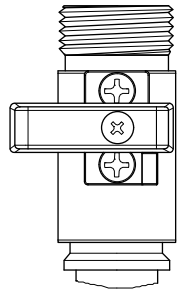
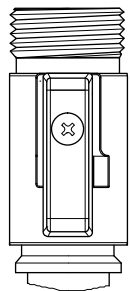

Fig. 1
Fig. 2
1. Turn Beer Flow Control Handle **RESET/CLEAN**. (See Fig. 1).
4. Turn Beer Flow Control Handle **ON**. (See Fig. 2). The line is full and ready for service.
2. Keep Flow Control Handle **ON**. (See Fig. 2).
4. Turn Beer Flow Control Handle to **RESET/CLEAN** position. (See Fig. 1). Wait for five seconds then turn to **ON** position. (See Fig. 2).
If beer does not flow, first turn the Flow Control Handle to **RESET/CLEAN**. (See Fig. 1). Wait for five seconds then turn the Handle to **ON** position. (See Fig. 2).
4. Turn Beer Flow Control Handle to **RESET/CLEAN** and clean as usual. (See Fig. 1).
5. After flushing, keep Beer Flow Control Handle in **RESET/CLEAN** position and retap keg. (See Fig. 1).